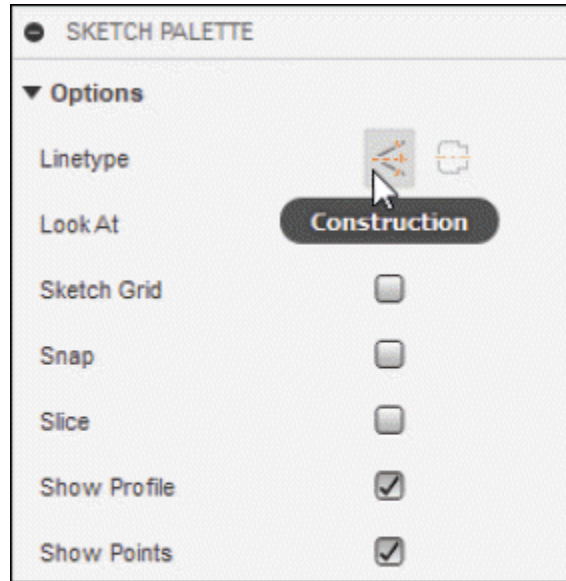
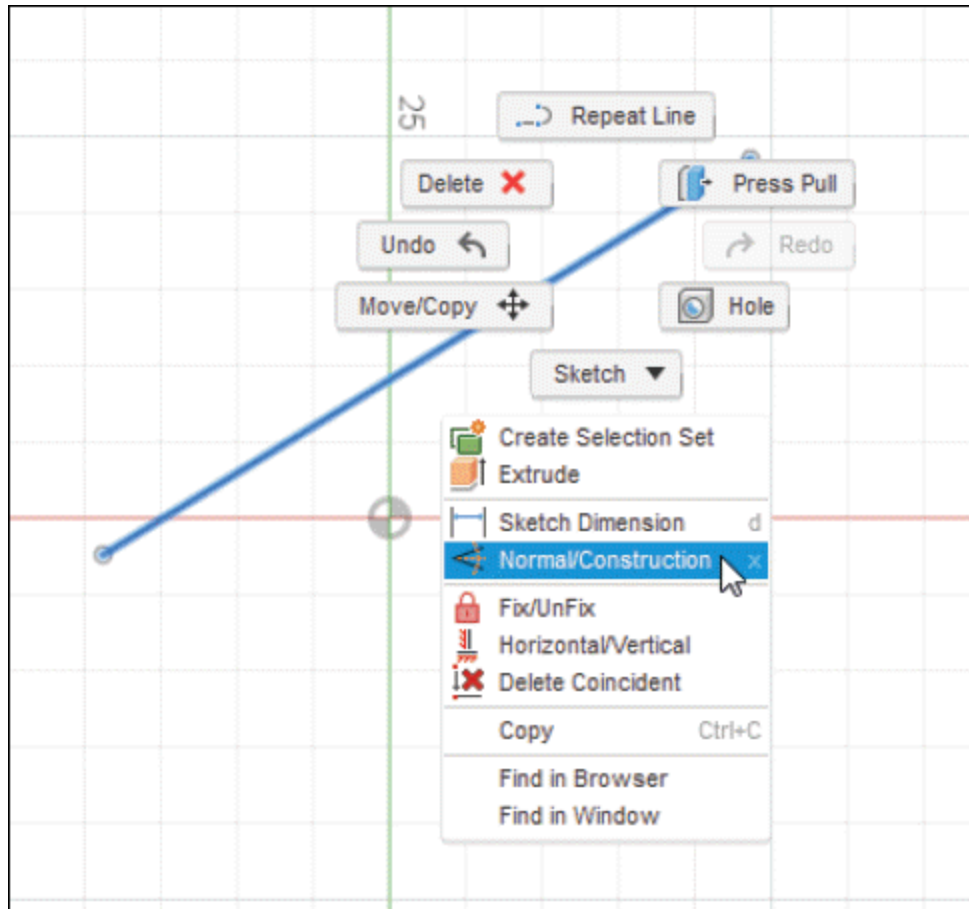

Figure-6. Construction button in SKETCH PALETTE
Figure-7. Marking menu
- To create a line for construction purpose, click on the **Construction** button from **SKETCH PALETTE** displayed at the right in the application window after activating **Line** tool; refer to Figure-6. (You will learn more about **SKETCH PALETTE** later in this chapter.) You can also right-click on the line after creating it and then click on **Normal/Construction** button from **Marking menu** to do the same; refer to Figure-7.